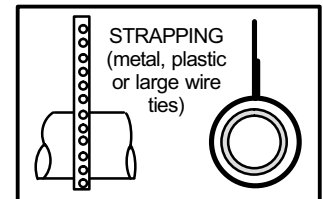

FIGURE 16
3. If exhaust piping must be run up a side wall to position above snow accumulation or other obstructions, piping must be supported every 3 feet (.9m) as shown in figure 16. Refer to figure 22 for proper piping method. When exhaust piping must be run up an outside wall, any reduction in exhaust pipe size must be done after the final elbow.